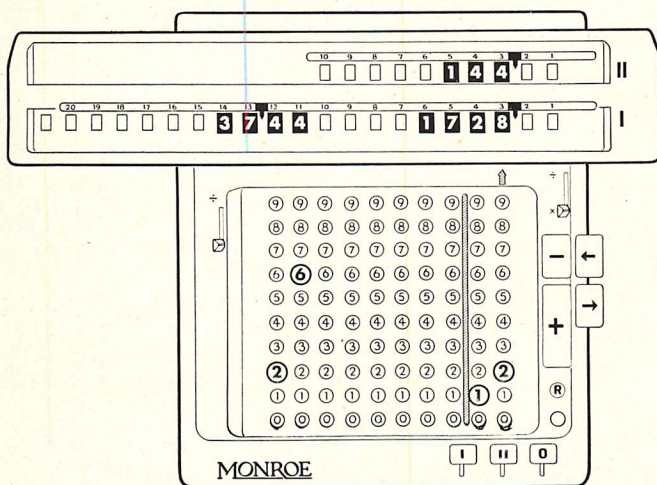

Figure 27
*Step 4*—At the completion of the build-up division, all factors of the problem show in the Monroe as illustrated in Figure 27: lower dials at 2nd decimal, dividend, 1728; upper dials, 144, number of dozens in 1728; lower dials at 12th decimal, the result, 37.44.